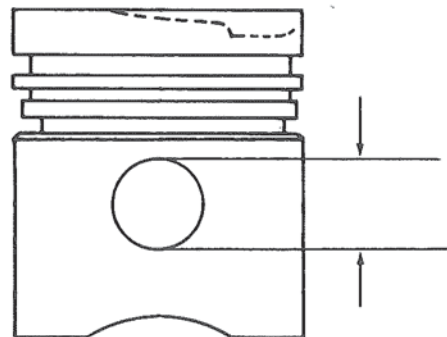

Figure 28. Piston Pin Measurement.
2. Measure piston pin bore. Figure 28. Bore diameter should be 32.00-32.05 mm. Replace piston if 32.05 mm. is exceeded.